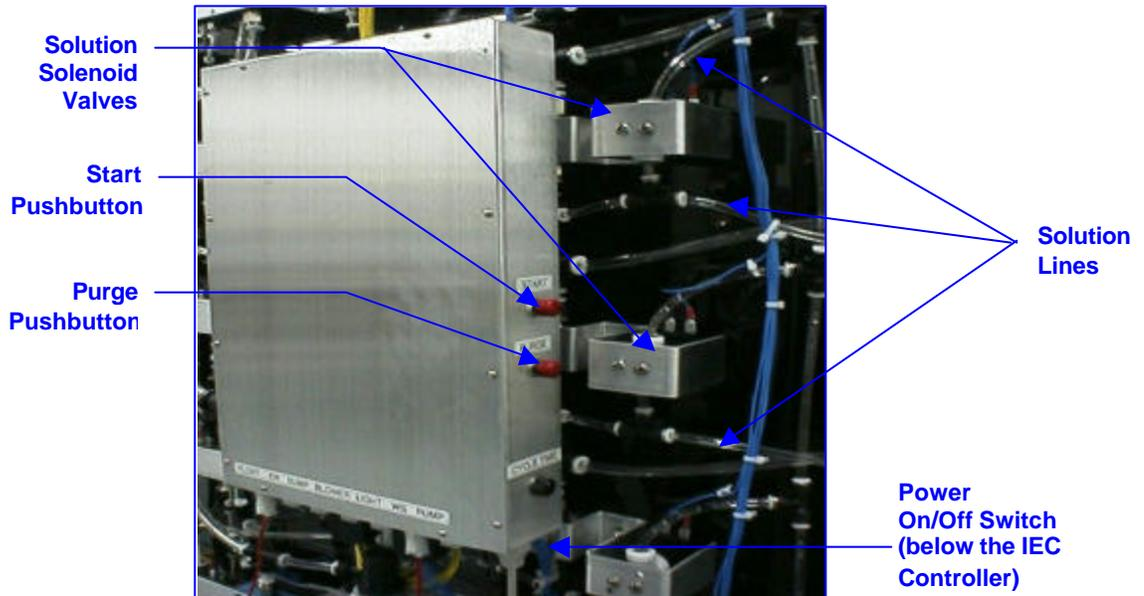

Figure 12: Location of Purge Pushbutton, Solution Lines, & Solution Solenoid Valves
Step 1. Turn *On* Power switch on the IEC (bottom). See figure 12, page 18, for Power On/Off switch location.